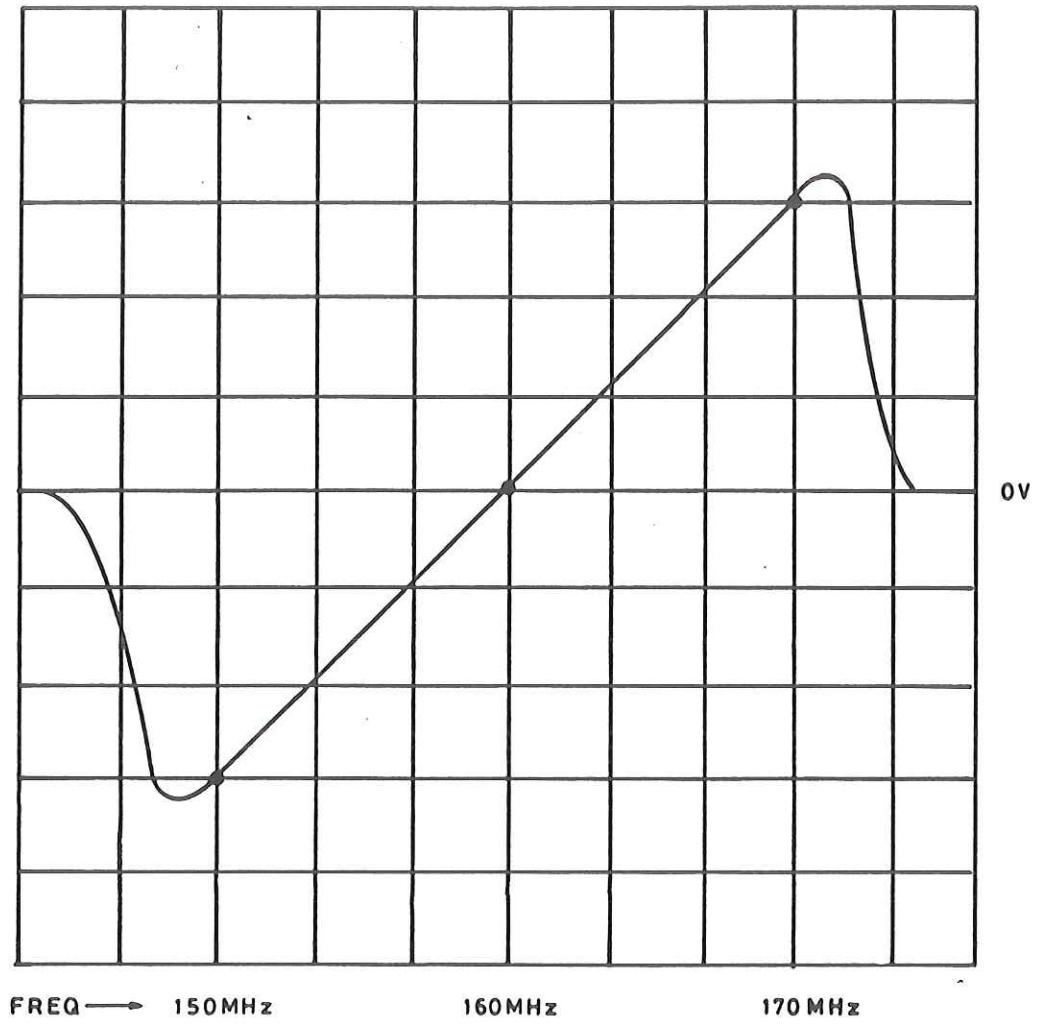

Fig 10 'S' curve 20MHz bandwidth
- c. Repeat these adjustment until the display resembles Figure 10.